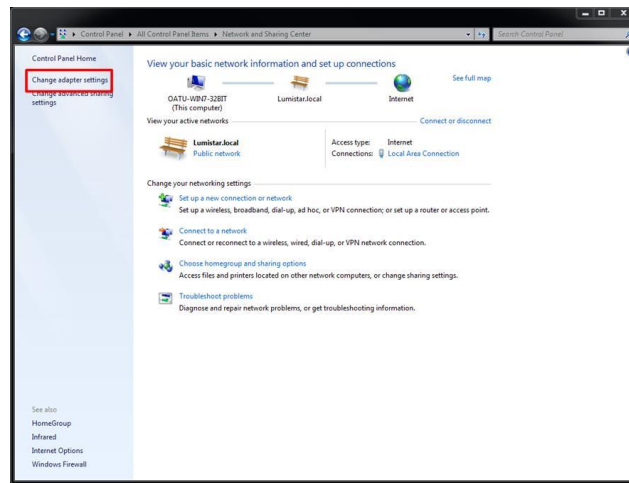

Figure 3-2 Windows Network and Sharing Page
Step 4: From Network and Sharing Center, select the "Change adapter settings" option from the left-hand menu. See Figure 3-2.